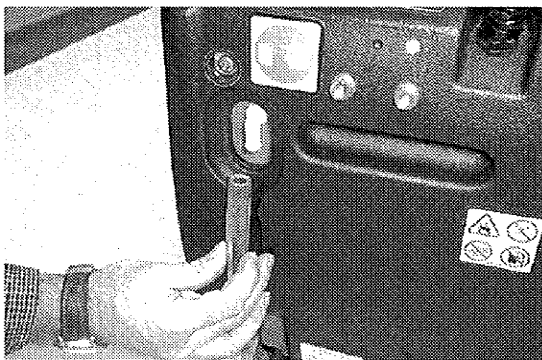

FIG. 15
3. Drain remaining water from solution tank (Figure 15).